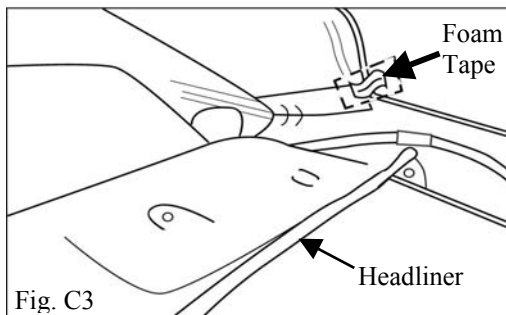

Fig. C3
3. Carefully pull down the headliner and check that factory foam tape has been applied to the windshield retention clip lap joint. (Fig. C3)
- ii. If tape is absent apply one (1) half-piece of foam tape to the windshield retention clip lap joint.